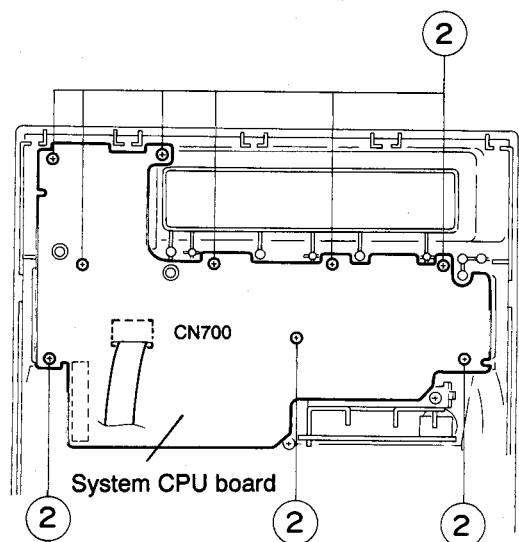

Fig.5-22
7. Remove the nine screws ② fastening the system CPU board.(See Fig. 5-22)
(See Figs. 5-22,5-23)